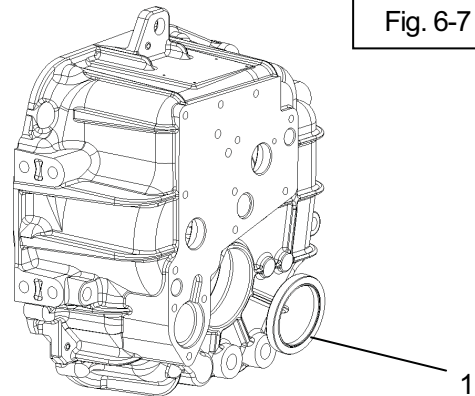

Fig. 6-7
Discard seal and replace with a new seal(Fig.6-7, item1).